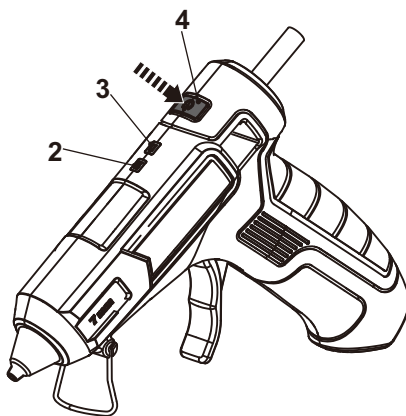

Fig. 6
1. Press and hold the on/off switch (4) for 3 seconds to turn on the product (Fig. 6). The power indicator (3) turn green and the temperature indicator (2) turn red.
2. Pre-heat the hot glue gun for 2 min to reach the melting temperature, and the temperature indicator (2) turns green. The product is ready for use.
3. Keep pressing the on/off switch (4) for 1 second to turn off the product.